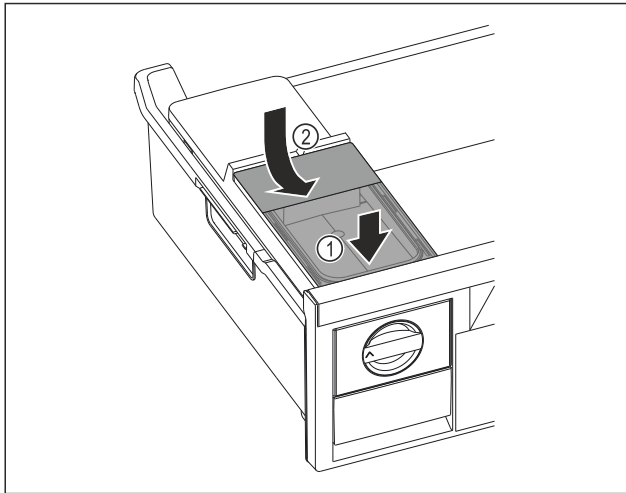

Fig. 167
- ▶ Position the water tank at the front. Fig. 167 (1)
- ▶ Lower the water tank at the rear. Fig. 167 (2)